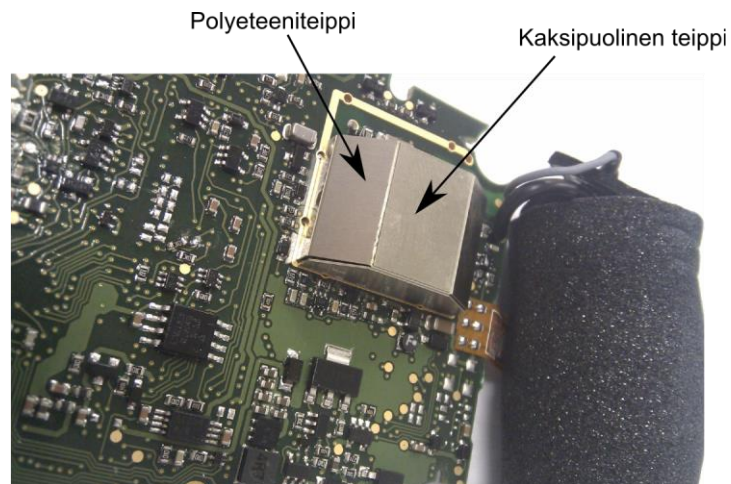

Figure 6. The attaching of the polyethene tape and the dual-sided adhesive tape on top of the interference shield.
2. The askew edge of the interference shield is covered with two layers of polyethene adhesive tape 21220033 as shown in Figure 6.